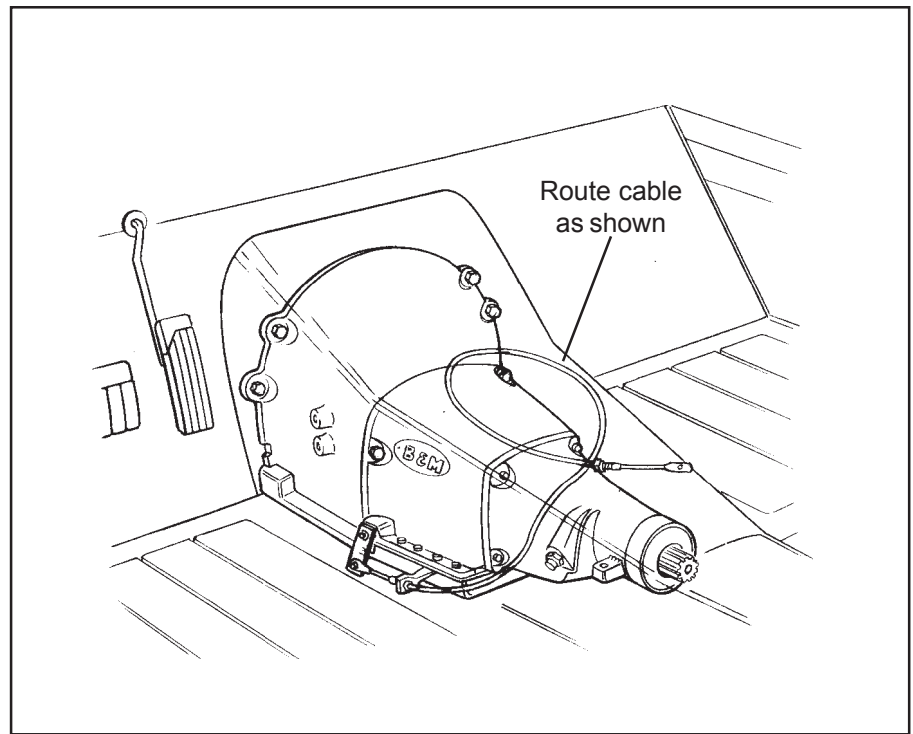

Figure 2
STEP 4. Route the shifter cable according to **figure 2**. Avoid kinks and sharp bends and route the cable away from hot engine or exhaust parts.